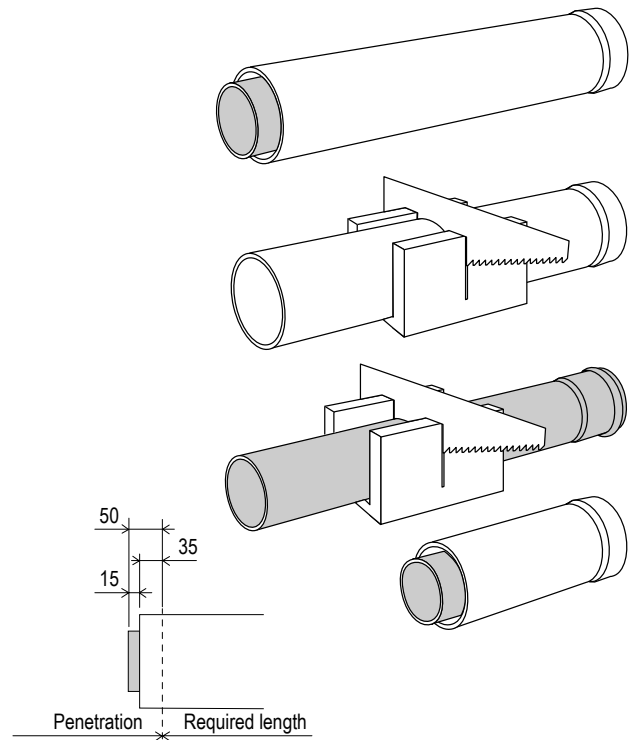

Fig.9
5. Measure the length of the horizontal terminal and cut to length allowing for the outer section of the flue to extend 10mm through the wall. (See the section cutting flue components (Fig.9).
- Using the dimensions shown in **(Fig. 7)** calculate the required number and combination of extension pieces and bends to be connected between the Infinity unit and wall terminal. Cut each length as required. (See the section cutting flue components **(Fig.9)**).
- Calculate the required number and combination of extension pieces and cut to length as required (See the section cutting flue components **(Fig.9)**)